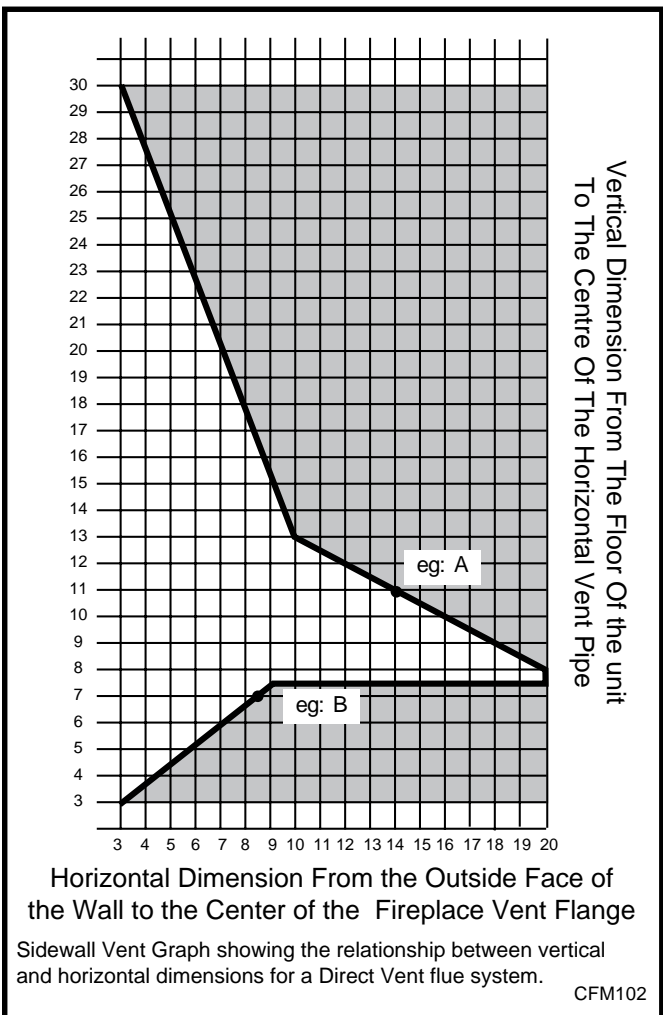

Fig. 19 Sidewall venting graph. (Dimensions in feet.)
1. Determine the height of the center of the horizontal vent pipe exiting through the outer wall. Using this dimension on the Sidewall Vent Graph (Fig. 19), locate the point intersecting with the slanted graph line.